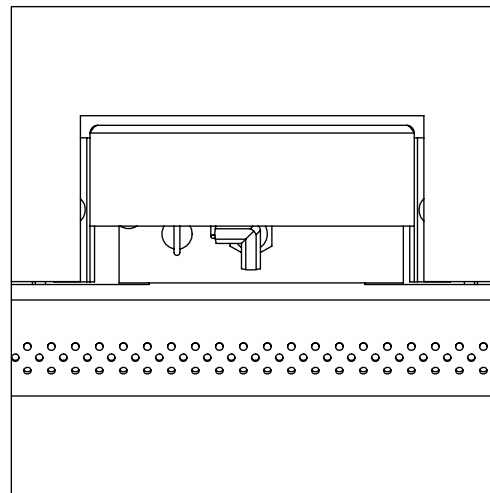

Figure 23. Correct Pilot
8. Reinstall the burner, log set, and glass door. Also refer to **SECONDARY INSTALLATION - LOG SET INSTALLATION** in your Owner's Manual. When re-installing the burner, ensure that the burner to pilot hood and shield relationship is similar to what is shown in Figure 23.